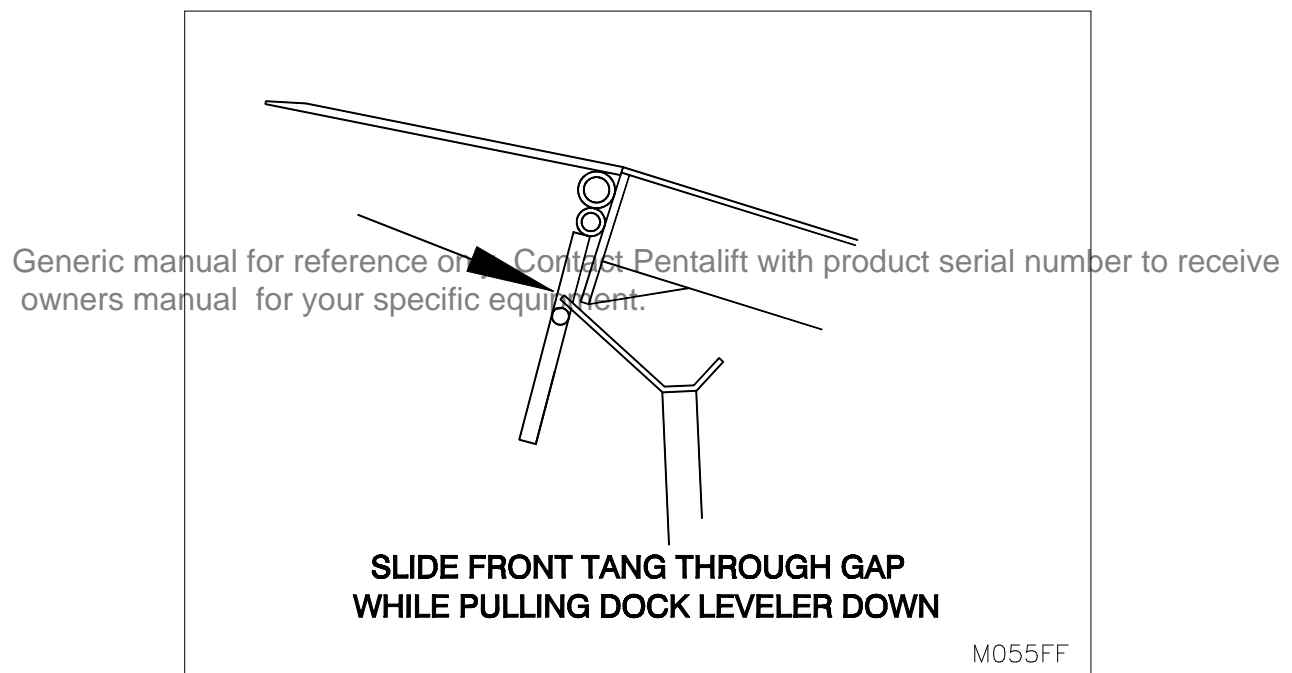

Figure 29: Supporting the Dock Leveler with Mechanical Fallsafe
3. While holding the maintenance stand, pull down on the lip while guiding the front tang of the stand between the headboard and mechanical fallsafe crossbar (See Figure 29: Supporting the Dock Leveler with Mechanical Fallsafe on page 19).